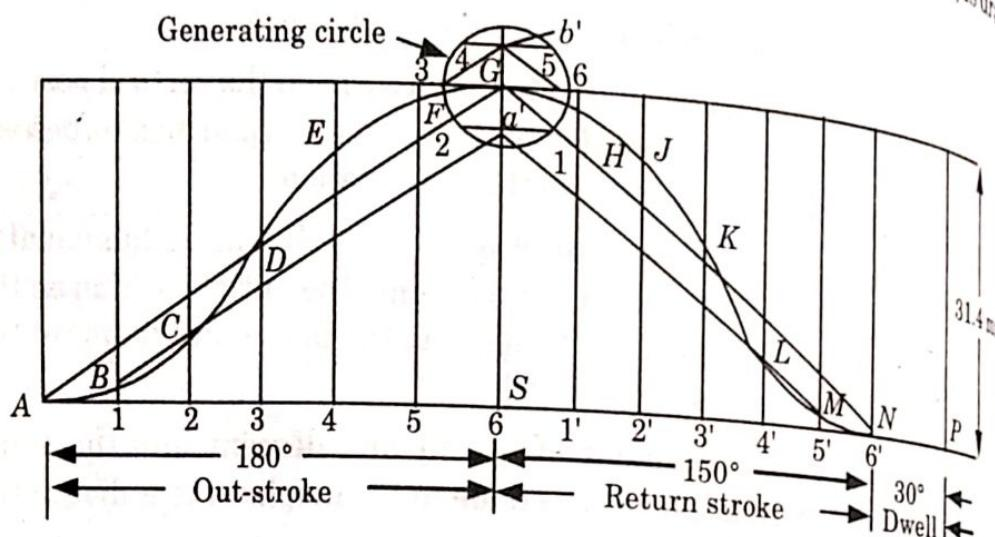

Fig. 2.10.1.
- First of all, the displacement diagram, as shown in Fig. 2.10.1, is drawn as discussed in the following steps :